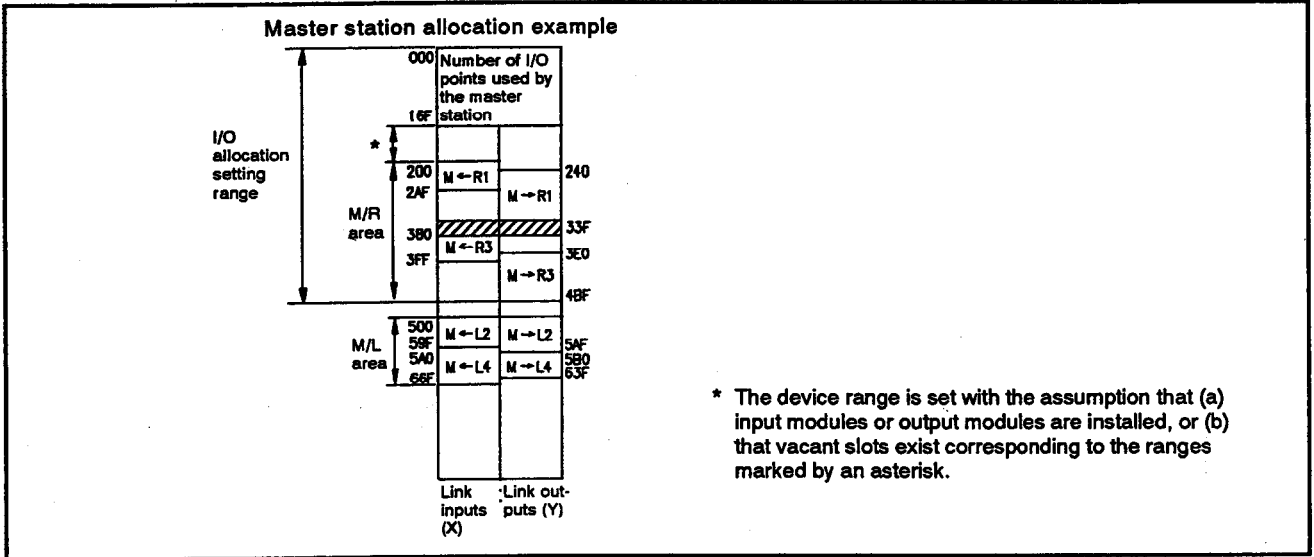

Fig. 7.50 Allocation Example
Fig. 7.50 shows the link parameter I/O allocation
When allocating inputs and outputs, the device range is set with the assumption that the input modules or output modules are loaded or that vacant slots exist corresponding to the ranges marked by asterisks in both items of Fig. 7.50 and in the "ML area" in Item (b) of Fig. 7.50.
- 24 to 26 : Range marked with an asterisk (170 to 1FF) in Fig. 7.50, Item (a)
(shaded area in Fig. 7.50, Item (a))